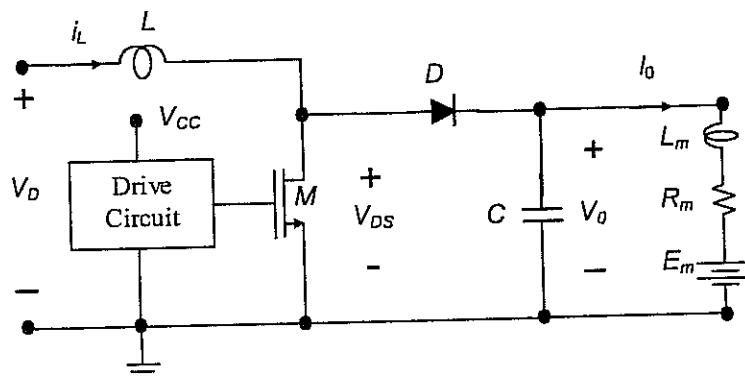

Fig. 2: Switching boost converter driving a dc motor
3. It is required to design a boost converter to supply a permanent magnet dc motor from a 36V dc source. The motor voltage is to be controlled in the range 40 to 80 V with an allowable peak to peak ripple of 5%. The motor current varies in the range 2 to 8A, with negligible ripple. The converter may be built using the IRF150 power MOSFET (data sheet attached) that may be operated at a frequency up to 1000 kHz, but the selected frequency is 25 kHz. The circuit diagram of the converter is shown in Fig. 2.